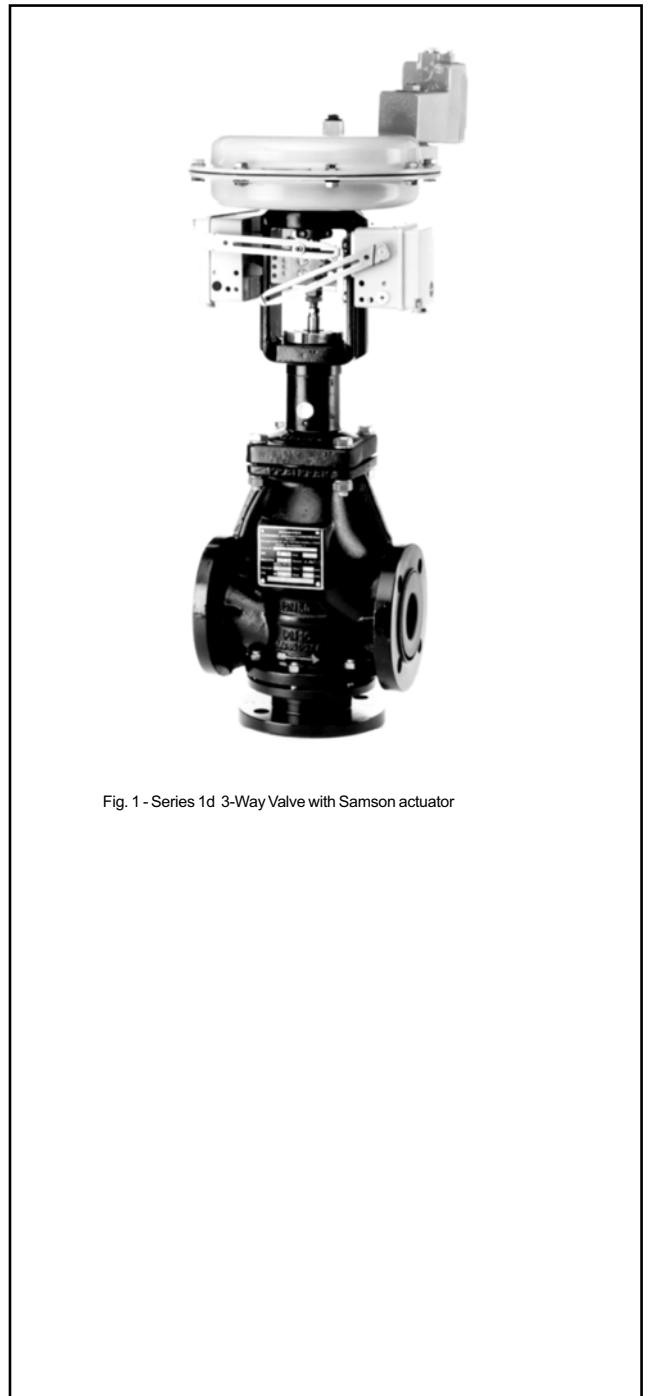

Fig. 1 - Series 1d 3-Way Valve with Samson actuator
- Samson pneumatic actuator (Fig. 1).